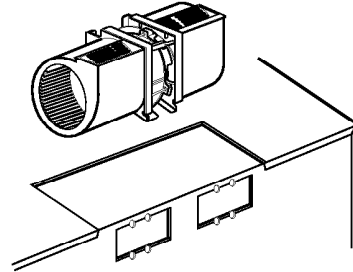

Figure 20-a
- (3) Carefully pull the ventilation motor ASS'Y out of the microwave oven. (See Figure 20-a)